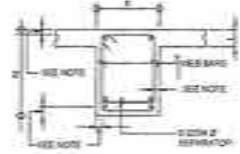

FIG. S-2
- IF THERE ARE TWO OR MORE LAYERS OF REINFORCING BARS, USE 20MM BAR SEPARATORS SPACED AT 1.0M ON CENTER. IN NO CASE SHALL THERE BE LESS THAN TWO (2) SEPARATORS BETWEEN TWO LAYERS OF BARS.
- MINIMUM CONCRETE PROTECTION FOR REINFORCING BARS OR STEEL SHAPES SHALL BE AS SHOWN IN FIGURE S-2 UNLESS SPECIFIED ELSEWHERE.